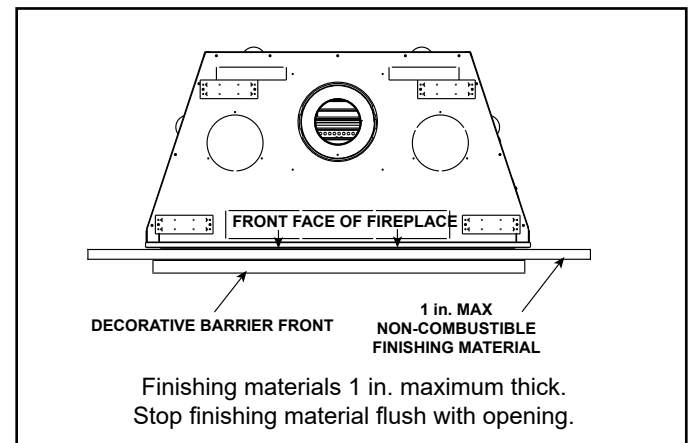

Figure 10.12 Overlap Fit Decorative Barrier Front
- Inside Fit as shown in Figure 10.12. Decorative barrier front fits inside appliance opening.